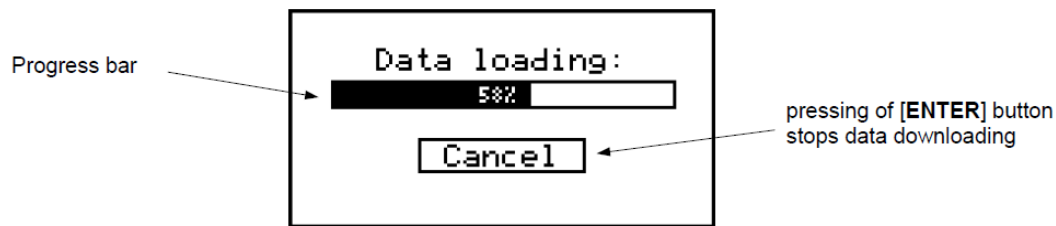
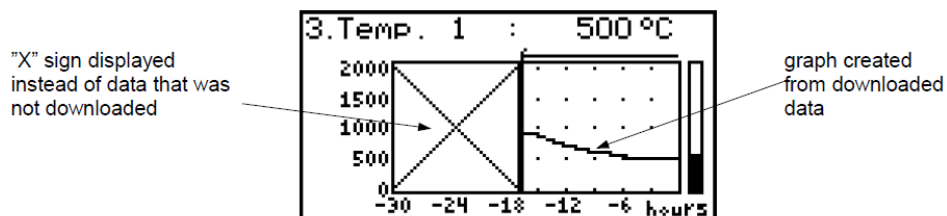

Fig. 6.18. Message displayed when loading data to be displayed on the graph
Fig. 6.19. Display in "Graph" mode in the case where data upload was stopped
- ☞ If downloading the data (recorded measurement results) necessary for displaying the graph takes more than 1 second an appropriate message is displayed (Fig. 6.18). Pressing [ENTER] will stop the data downloading process and display a graph made on the basis of the data downloaded so far. "X" will be displayed instead of data that was not downloaded (Fig. 6.19).